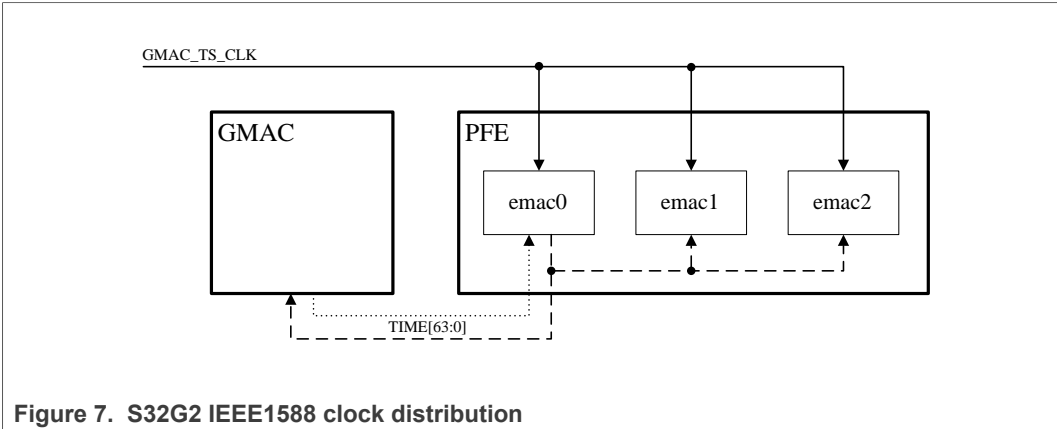

Figure 7. S32G2 IEEE1588 clock distribution
The S32G platform allows multiple clock configurations, as depicted in Figure 7.
See Figure 7, full line.
1. EMAC0 is the time source and feeds GMAC, EMAC1 and EMAC2. See Figure 7, dashed line.
2. Dotted line on Figure 7 represents a limited sharing. GMAC is the time source and feeds EMAC0. EMAC1 and EMAC2 cannot use external clock in this case.
Device tree determines configuration of external time sources in `nxp,pfeng-eth-timestamp-ext-modes` property of PFE device node. The listed `PFE_PHYIF_ETH_` are configured to use external time source. For example, Figure 7 dotted line, following setting represent the limited time sharing: